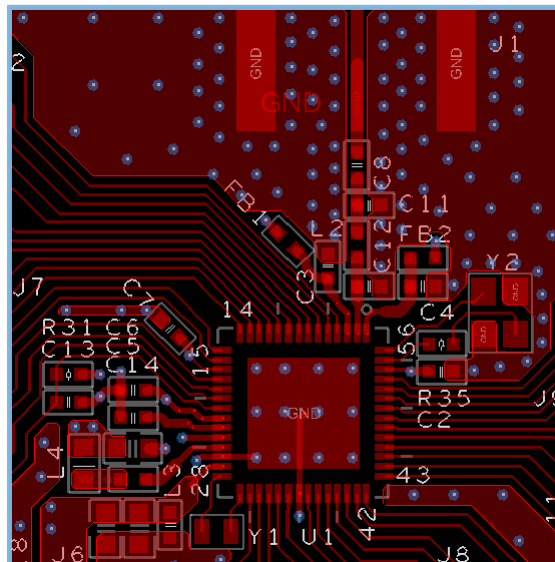

Figure 4-13 Top layer design for 2-layer PCB
1. Try to place components and routing on the top layer only (as shown in Figure 4-13, the top layer is used for component layout and routing of key signals such as RF), so that the bottom layer can be as complete as possible.